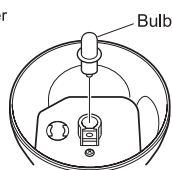

Fig. 4
- Replace the bulb. (Fig. 4) (A spare bulb is set in the head.)